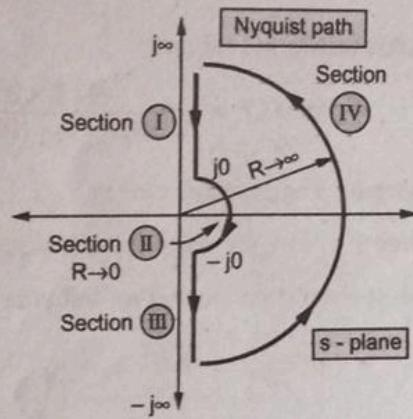

Fig. 12.13.1
Step 3 : Pole at origin hence Nyquist path is as shown in the Fig. 12.13.1.